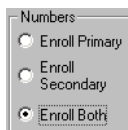

Figure 14-16: Enroll Cards - Numbers Field
- In the “Numbers” field, click on the Enroll Both radio button (see Figure 14-16).